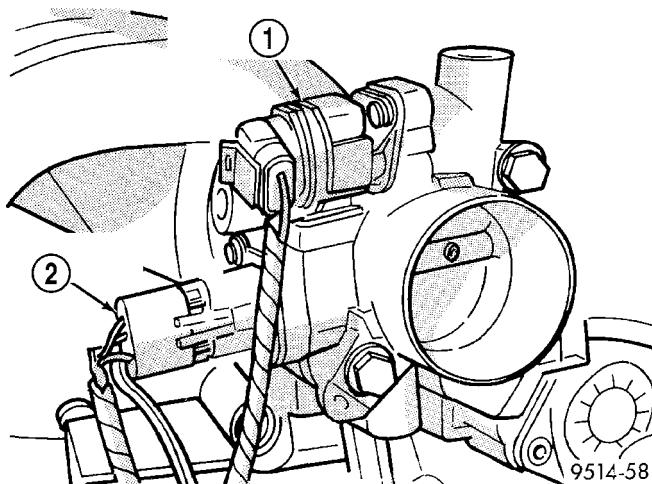

Fig. 108 Throttle Body Electrical Connectors - Typical
- (3) Disconnect air intake tube at throttle body and remove upper air cleaner housing.
- (4) Disconnect connector from throttle position sensor (TPS) (Fig. 108).
- (5) Disconnect connector from idle air control (IAC) motor (Fig. 108).